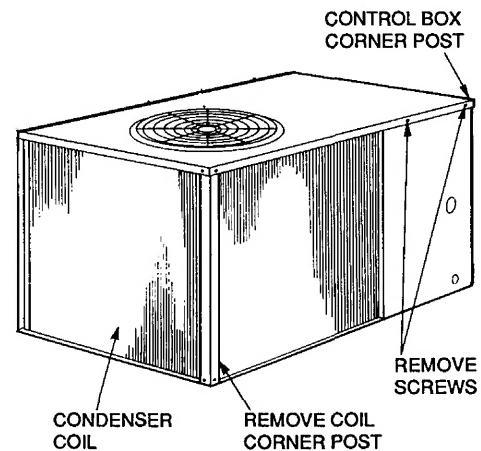
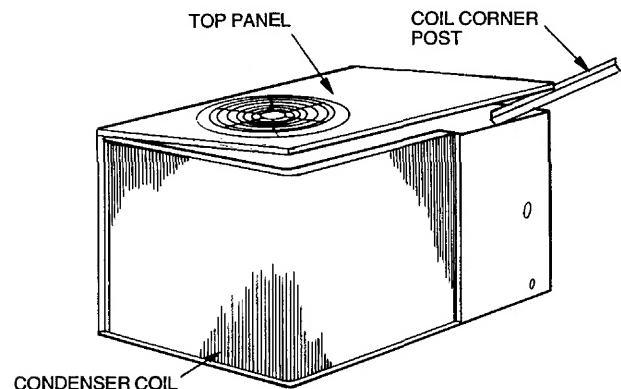

Fig. 7 — Cleaning Condenser Coil
Fig. 8 — Propping Up Top Panel
3. Remove condenser coil corner post. See Fig. 7. To hold top panel open, place coil corner post between top panel and side panel. See Fig. 8.